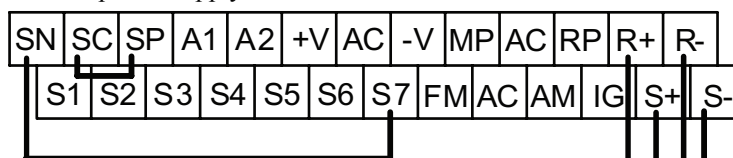

Fig 6.78 Communication Terminals Wiring for Self-Diagnosis
3. Perform the wiring according to Fig 6.78.